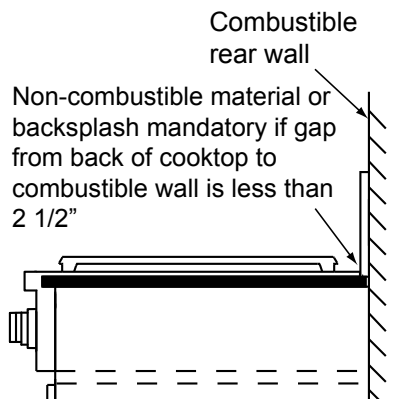

FIGURE 2
- Installation of a non-combustible material (up to the hood) or a backsplash is always recommended, and mandatory if the distance to the back wall from the rangetop is less than 2 1/2" (Figure 2). Consult local codes and ordinances for acceptable non-combustible materials.